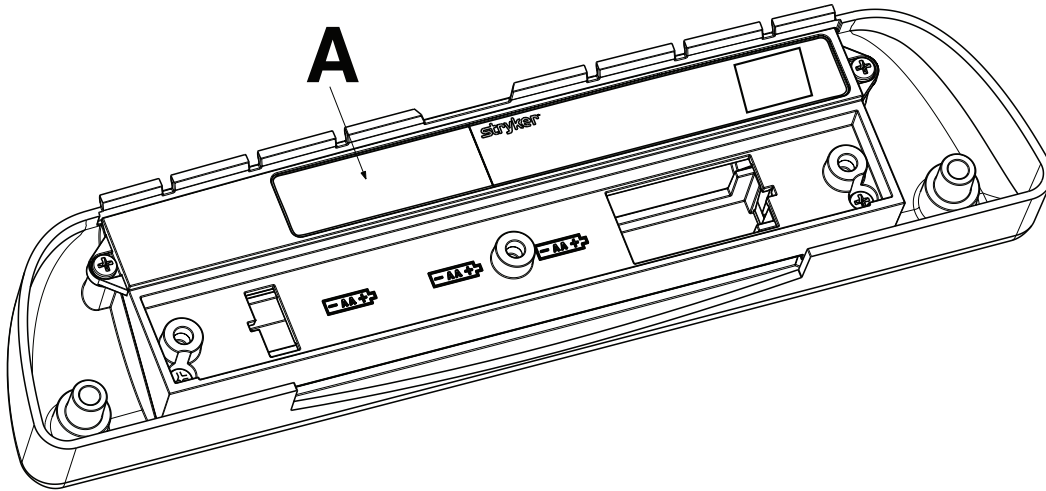

Figure 2 – Serial/identification number location
The serial number and the bed bay identification number (BBID) (A) is located on the backside of the product (Figure 2).